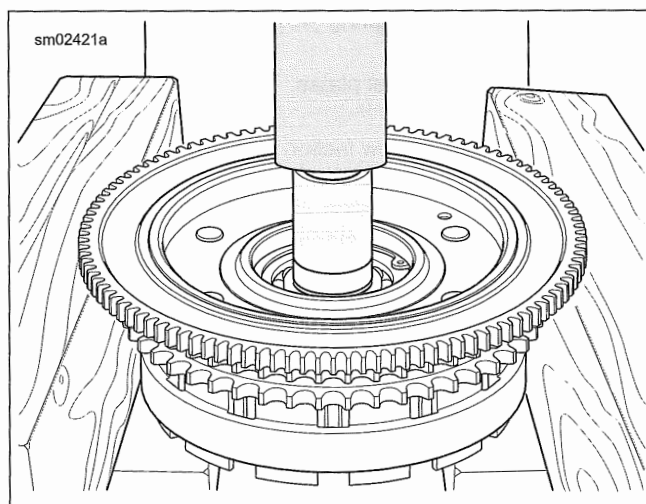

Figure 5-23. Pressing Clutch Hub From Bearing
- b. See Figure 5-23. Support clutch shell in press with ring gear side up.
- b. See Figure 5-23. Support clutch shell in press with ring gear side is down.